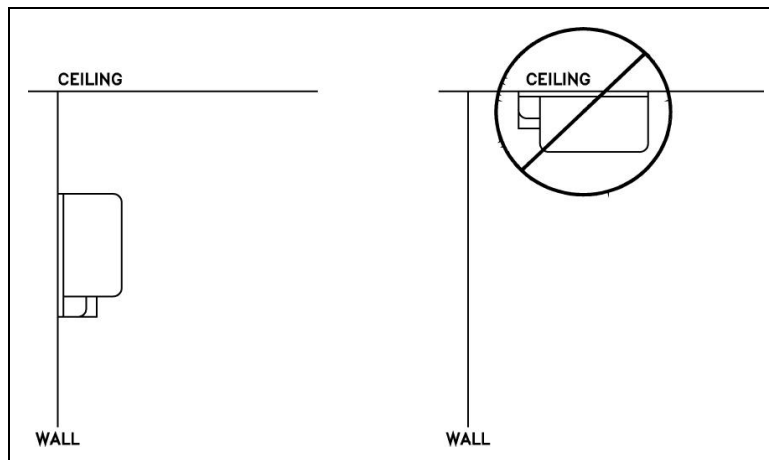

Figure 5: Pressure Transducer Mounting
1. Install pressure transducer in desired location (typically above ceiling). The transducer must be mounted on a wall in the correct position per Figure 5 (screws not provided). Do **not** mount pressure transducer to duct or other vibrating surface.